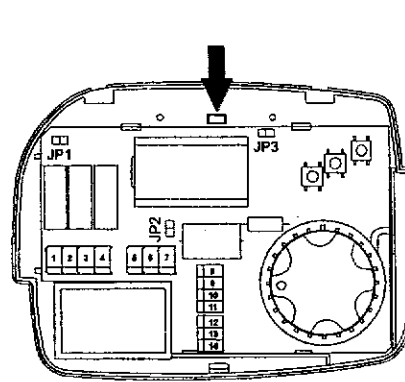

Fig. 4: Internal view.
2. Unmount the plate fixed at the controller back by pressing the plastic tooth shown in Fig. 4 and, at the same time, pull the plate to the bottom until it becomes free from the plastic base.
For the 24V- operation it is necessary to move the jumper from position JP1 (Fig. 4) to position JP2 (Fig. 4).